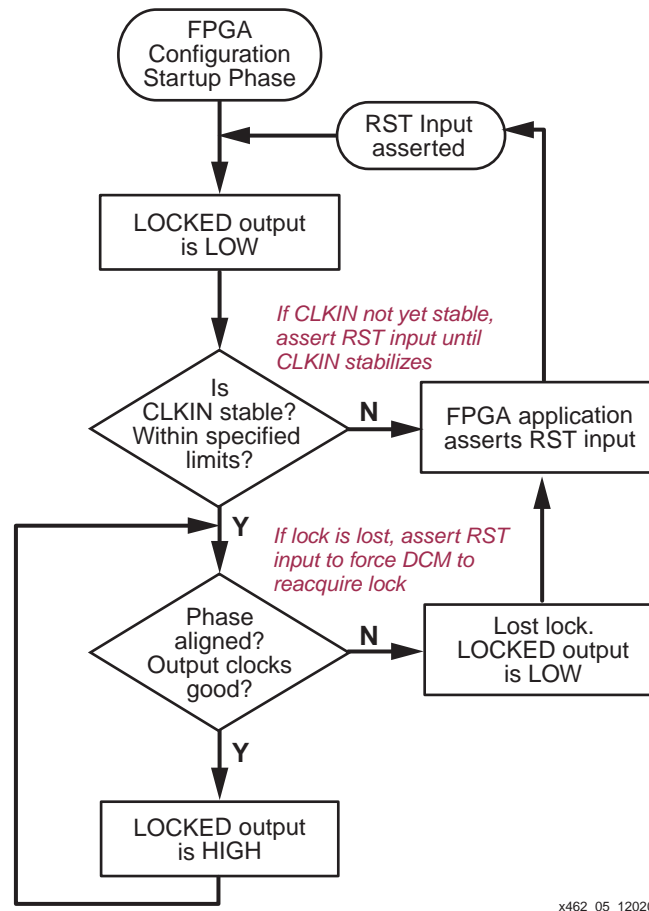

Figure 3-5: Functional Behavior of LOCKED Output
**Figure 3-5** shows the behavior of the LOCKED output. The LOCKED output is Low immediately after the FPGA finishes its configuration process and is Low whenever the **RST** input is asserted.